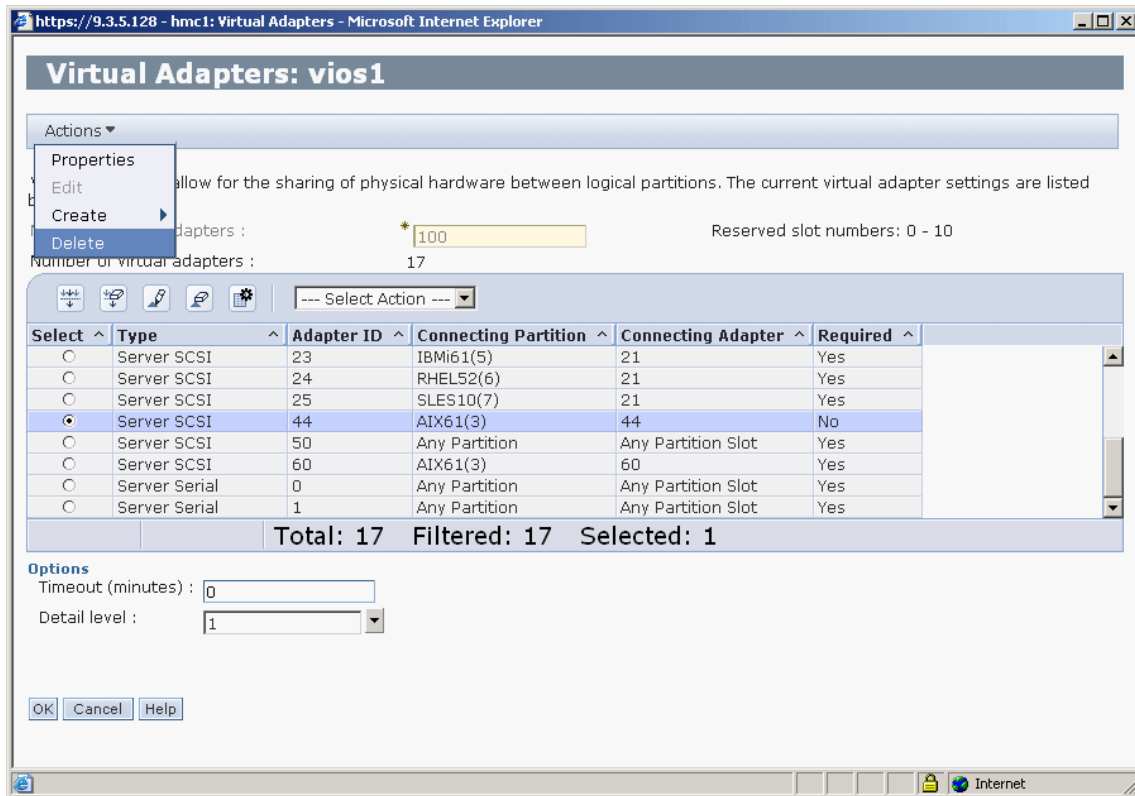

Figure 12-22 Delete virtual adapter
3. Select the adapter that you want to delete and click **Actions** → **Delete** (Figure 12-22).